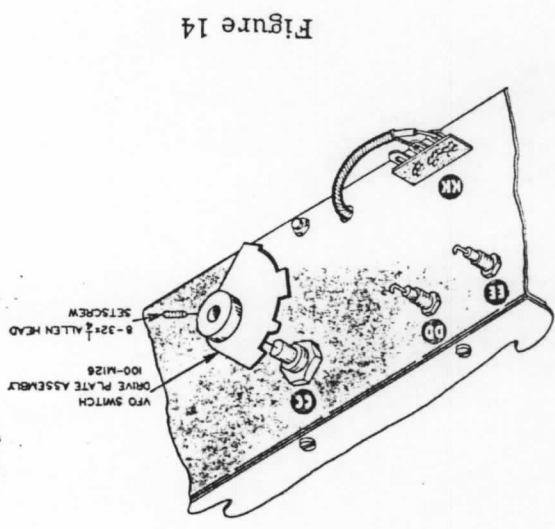

Figure 14
- (✓) Connect a .005 mfd disc ceramic capacitor between KK2 (S-2) and KK3 (NS).
- (✓) Connect the 8.5 μ h RF choke between KKI (NS) and KK3 (NS).
- (✓) Connect a 6.8 K Ω 1 watt resistor (blue-gray-red) between FF2 (NS) and pin 8 of tube V2 (S-2).
- (✓) Connect a .005 mfd disc ceramic capacitor between FF2 (NS) and FF3 (S-1).
- (✓) Locate the VFO switch drive plate assembly (#100-M126) and start an 8-32 x 1/4" Allen head setscrew in the threaded hole. Use the wrench provided. Now slip the plate on the VFO band switch shaft and, with the end of the bushing about even with the end of the switch shaft, tighten the setscrew on the shaft flat at this time. See Figure 14.